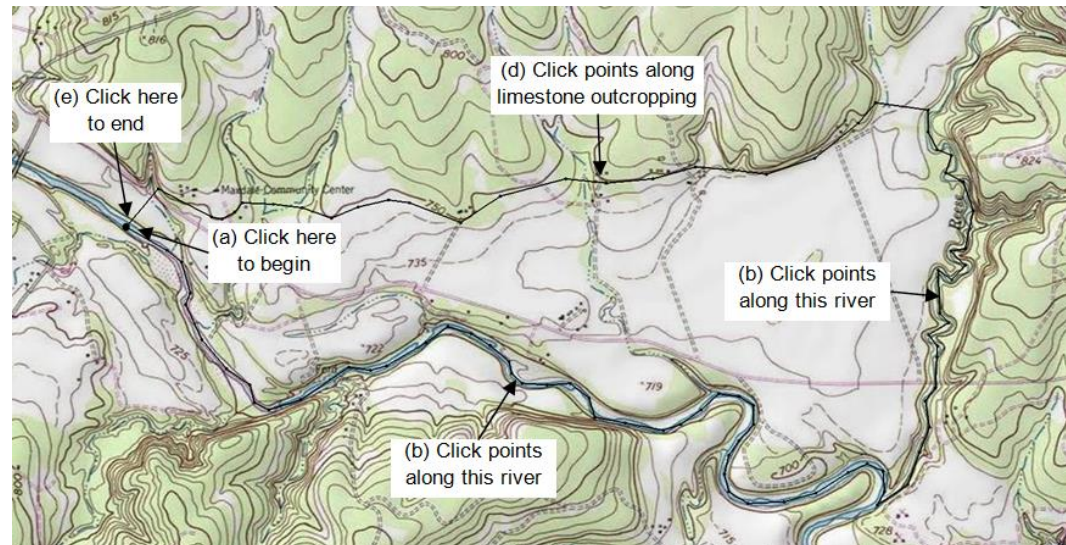

Figure 2 Creating the boundary arc
3. Begin the arc by clicking once on the left (west) side of the model at the location shown in Figure 2.
4. Create the arc by proceeding around the boundary of the site in a counter-clockwise direction and clicking on a sequence of points around the boundary. Don't worry about the spacing or the exact location of the points; just use enough points to define the approximate location of the boundary. The boundary on the south and east sides of the model should coincide with the rivers as shown in Figure 2. The boundary along the top should coincide to the limestone outcropping as shown in Figure 2.